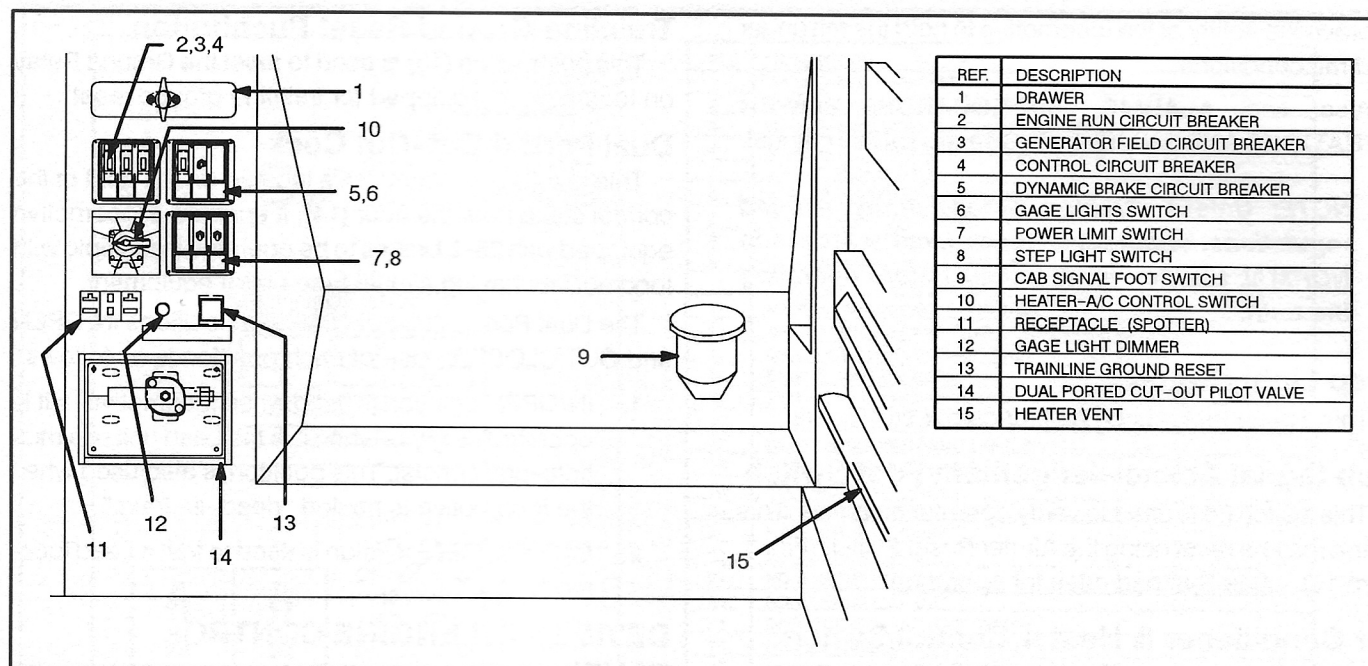

FIG. 8. CONTROL CONSOLE, BOTTOM. E-40976.
**NOTE:** Numbers in parentheses ( ) refer to items found on Fig. 8 of this publication unless noted otherwise.